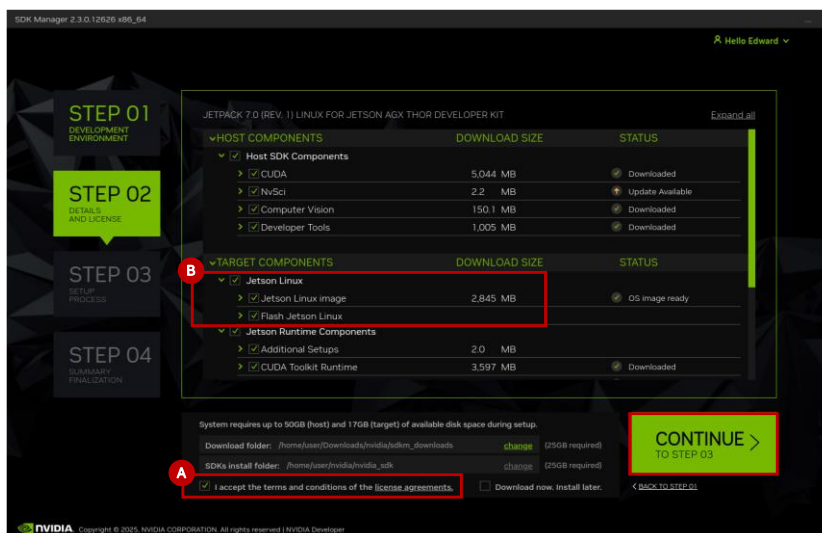

Figure 6.17. STEP 02 – Details and License
- In **STEP 02**, select **I accept the terms and conditions of the license agreements** as shown in Figure 6.17. Leave all settings under **TARGET COMPONENTS** as their default values (see letter B). Click **CONTINUE** to proceed with the installation process.